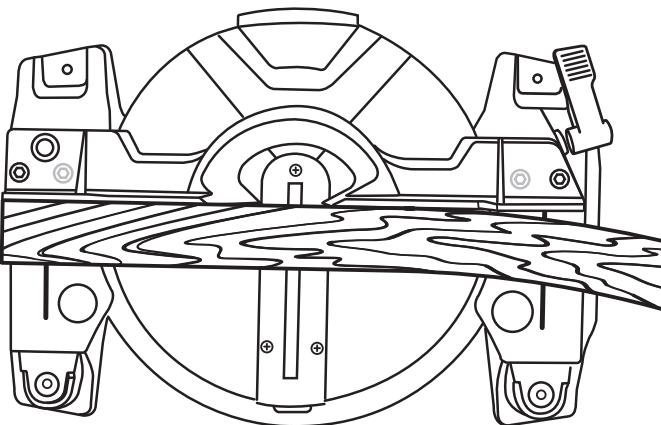

Fig. 32
- Place the workpiece flat on the miter table with one edge securely against the fence. If the board is warped, place the convex side against the fence. If the concave edge of a board is placed against the fence, the board could collapse on the blade at the end of the cut, jamming the blade. See figures 32 - 33.
- Place the workpiece flat on the miter table with one edge securely against the fence. If the board is warped, place the convex side against the fence. If the concave edge of a board is placed against the fence, the board could collapse on the blade at the end of the cut, jamming the blade. *See figures 32 - 33.*
See Figures 32 - 33.
When cutting warped material, always make sure it is positioned on the miter table with the convex side against the fence as shown in figure 32.